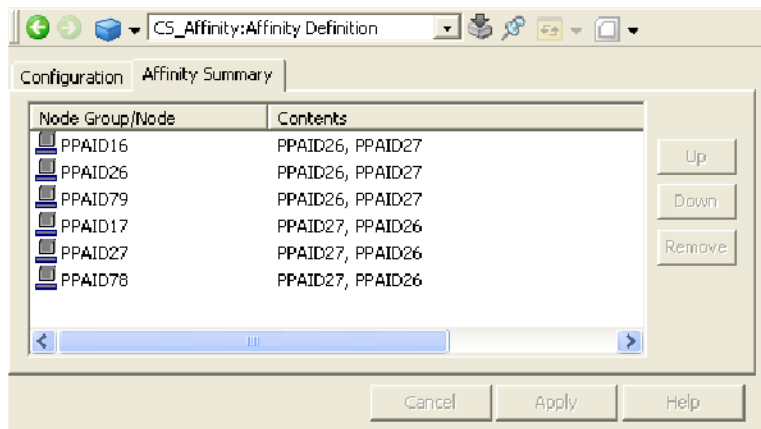

Figure 8. Affinity Summary Tab
- 7. Verify the configuration in the **Affinity Summary** tab (Figure 8). The Affinity **Summary** tab lists the configuration performed for all nodes in the system.